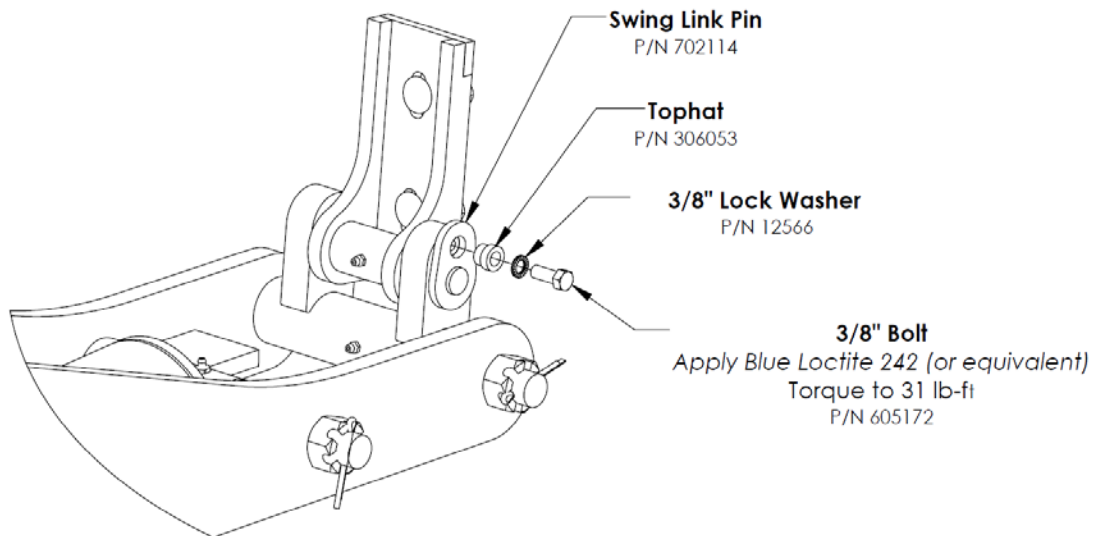

Figure 2. RW-1019B Front Pin Assembly– GM & Internationa
1. Remove the 3/8" bolts retaining the swing link pins on both sides of the vehicle (**FIGURE 2**).